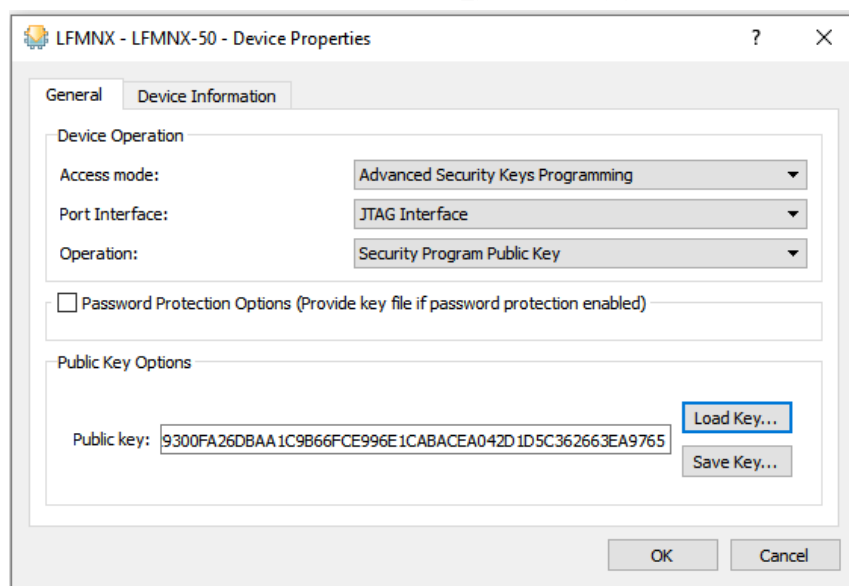

Figure 5.7. Program the Public Key in Diamond Programmer
3. Program the PUBKEY sector of the Mach-NX with the ECDSA_pub.pem key generated by the FST as shown in Figure 5.7.